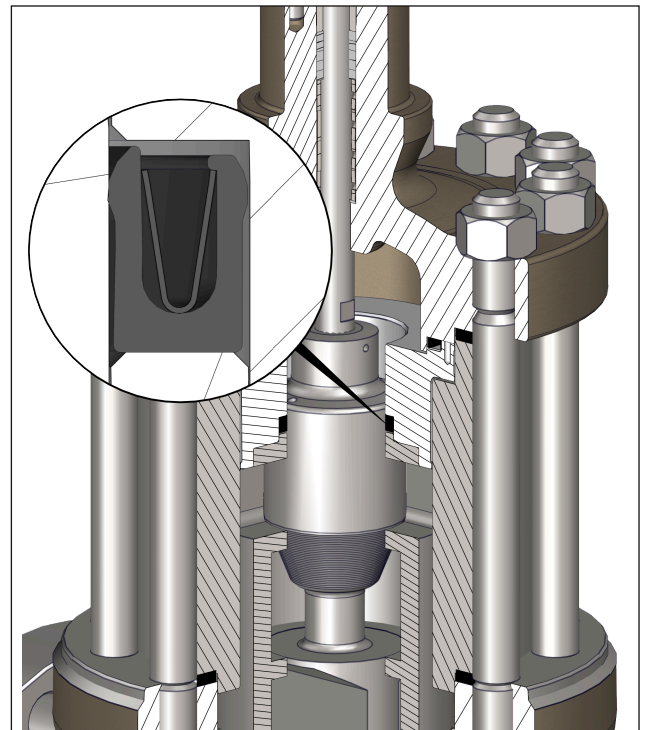

Fig. 25: Alignment of pressure-balancing seal (45) for FTO direction of flow
10. Insert a new pressure-balancing seal (45) on the cylinder (463). Make sure the seal is properly aligned (see Fig. 25).
11. Place the cylinder (463) with pressure-balancing seal (45) over the plug stem (36) into the intermediate piece (22) until it rests on the plug (5) and on the intermediate piece (22). Use the special tool for this step.
12. Place new spiral wound gaskets (17, 126) on the top of the intermediate piece (22) and on the cylinder (463).
13. Mount the valve bonnet (2), see section "b) Mounting the standard bonnet" in Chapter 9.4.1.